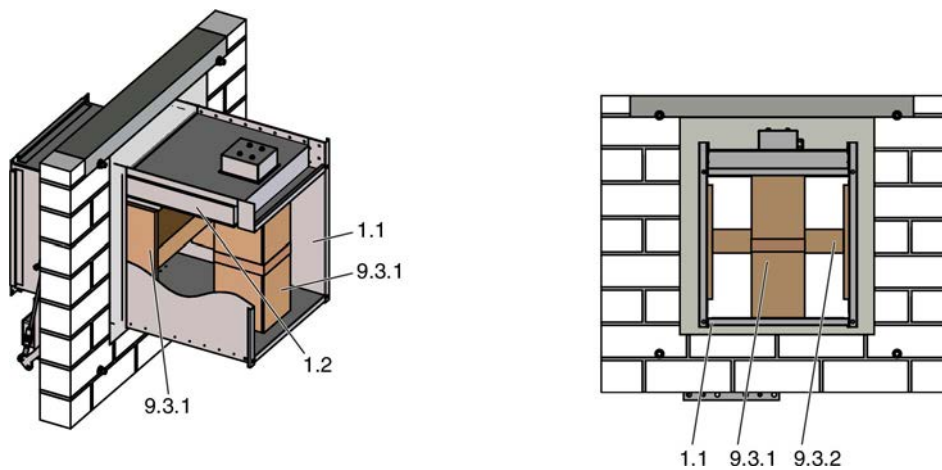

Fig. 11: Transport protection and props
- Remove prop 9.3.2, see Fig. 11.